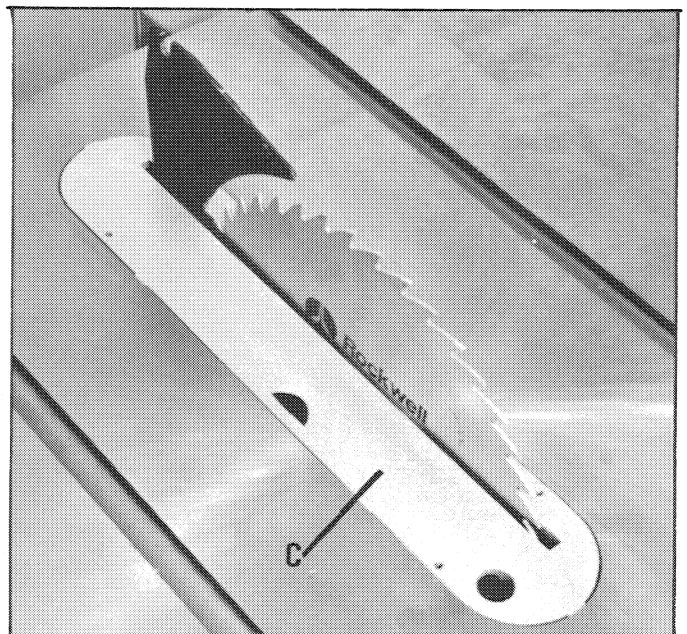

Fig. 26
2. Place table insert (C) on saw table, as shown in Fig. 26.